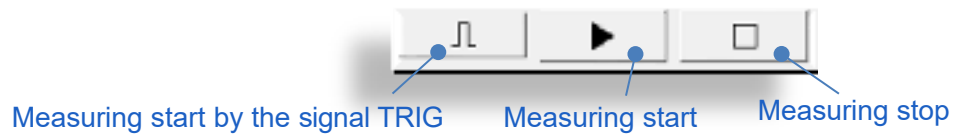

FIGURE 5.9: START AND STOP BUTTONS OF MEASUREMENT
5. Press "Start" to begin the measurement (Figure 5.9).
1. Press "STOP" (Figure 5.9) for measurement ending. Each new measurement is performed in a new tab. Each tab can be saved in separated log file.